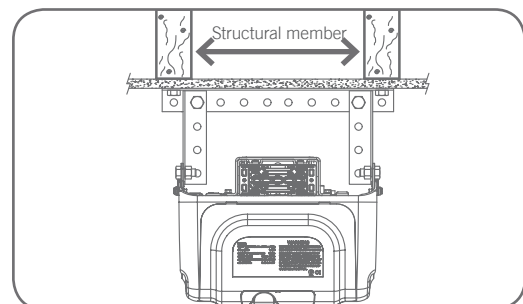

Fig. 16
- Secure the perforated angle (not supplied) to the ceiling above where powerhead's mounting holes will be once fully installed. A representative mounting is shown (**Fig. 16**).
- Connect the powerhead to the ceiling mounted perforated angle with M8x20mm screws and nuts. Strips should not extend more than 18mm below centre of powerhead mounting holes (**Fig. 16**).
- Secure the perforated angle (not supplied) to the ceiling above where powerhead's mounting holes will be. See (**Fig.16**) for a representative mounting.